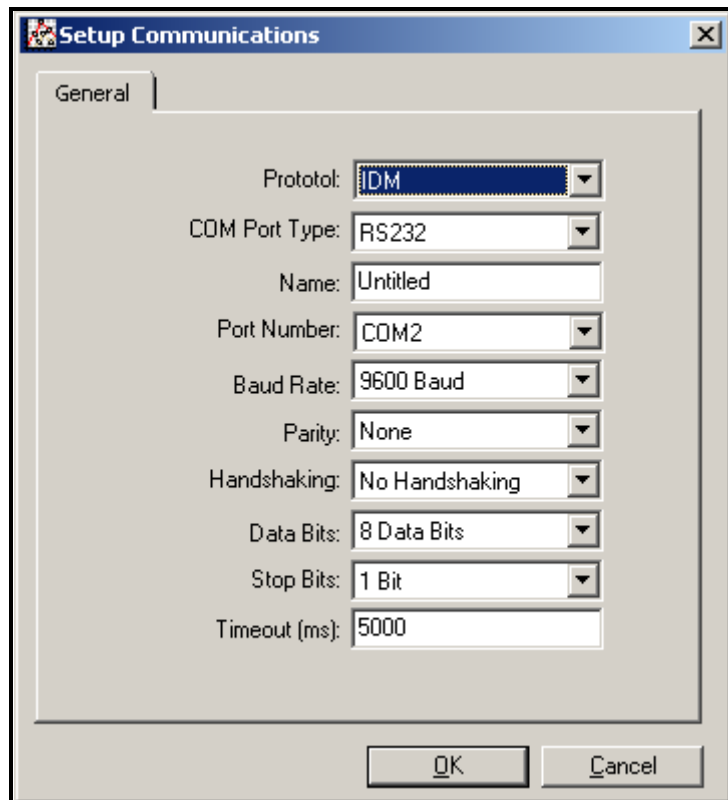

Figure C-2: Setup Communications Screen
- Click on the “*Communications Port*” option to select it. The *Setup Communications* screen appears similar to Figure C-2 below.